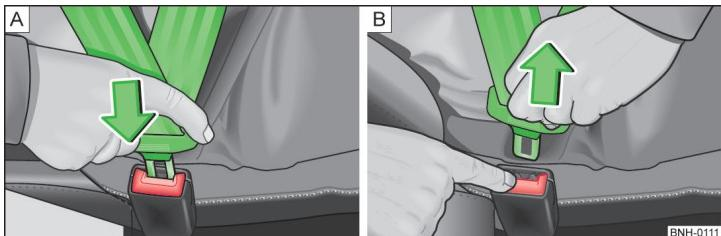

Fig. 5 Fastening/unfastening the seat belt
» Insert the lock tongue into the belt buckle belonging to the seat » Fig. 5 - [A] until it you hear it click into place.
- » Press the red button in the belt buckle » Fig. 5 - [B], the lock tongue pops out.